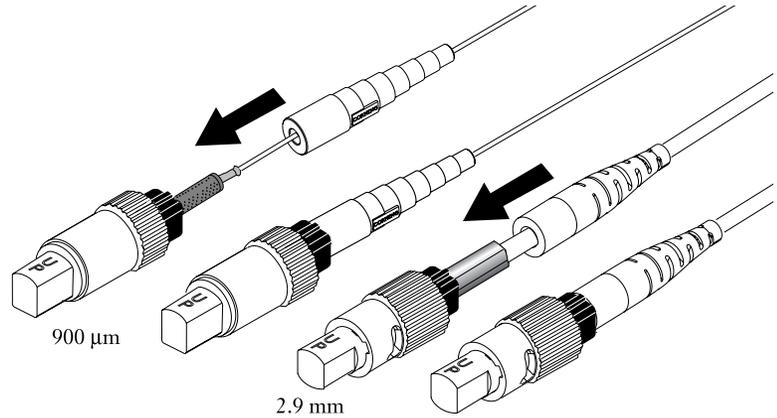

Figure 5-54
- a) Slide the boot up the back of the connector until it reaches the cam (Figure 5-54).